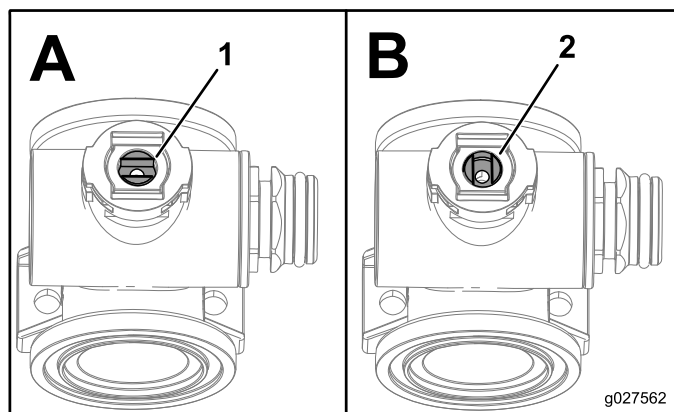

Figure 5
Note: Ensure that the valve stem assembly is in the open position (Box A; Figure 5).
11. Turn the valve stem assembly so that the valve is closed (Box B; Figure 5).